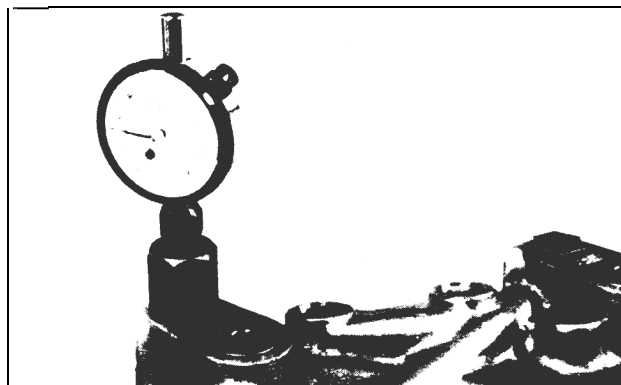

FIG. 1.5.9
2. Install the dial indicator assembly into the trigger valve bore (see Fig. 1.5.9). Hand tighten, metal to metal contact only,